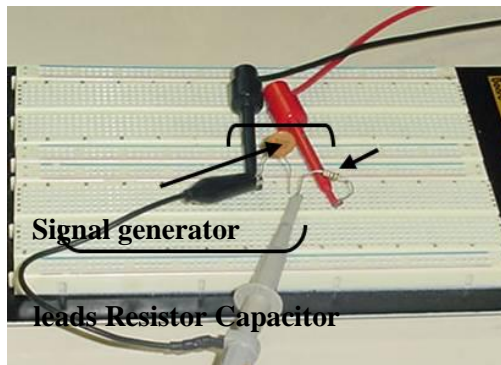

Fig. 9. RC Transient Test Circuit
5.1.4. Connect capacitor and resistor as shown in Fig. 9, with signal generator and oscilloscope across the resistor and capacitor as shown.